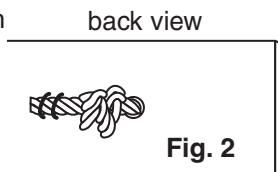

Fig. 2
4. Secure both ends with staples provided (2 each end). (Fig. 2)